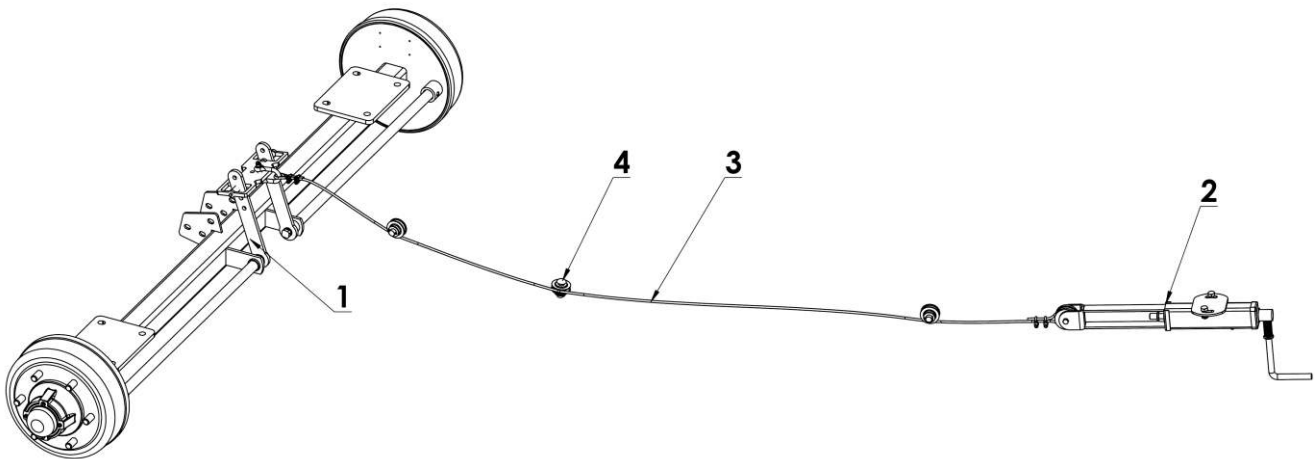

Fig. 13 Parking brake with crank mechanism
The parking brake (fig. 13) is used to immobilize the trailer when stationary. The brake's crank mechanism (item 2) is welded to the right stringer of the lower frame. The steel cable (item 3), led by the rollers (item 4), is connected to the levers of the rear driving axle's expander (item 1) with the crank mechanism. Tightening the string (rotation of the crank mechanism in the direction of the clock's rotation) causes a shift of the lever spreader that, when parting the brake linkage, immobilize the trailer.